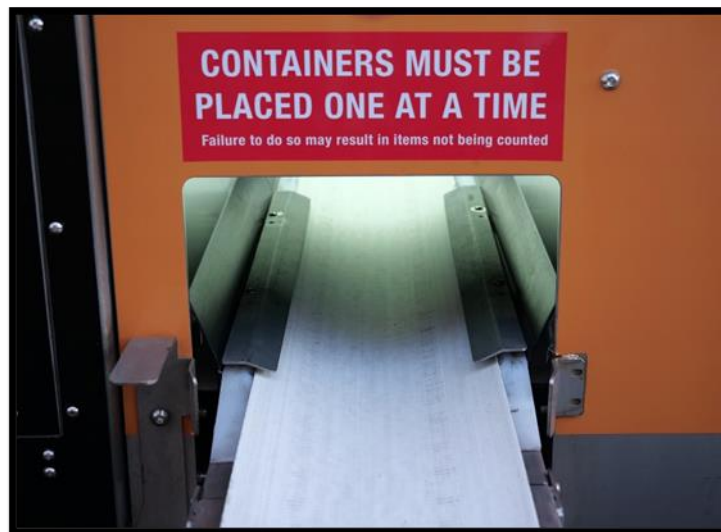

Figure 69. Protection Strips
- When finished, lower the conveyor belt down and fasten the two conveyor release latches. Ensure the belt is refitted under both stainless-steel conveyor belt protection strips as seen on Figure 69